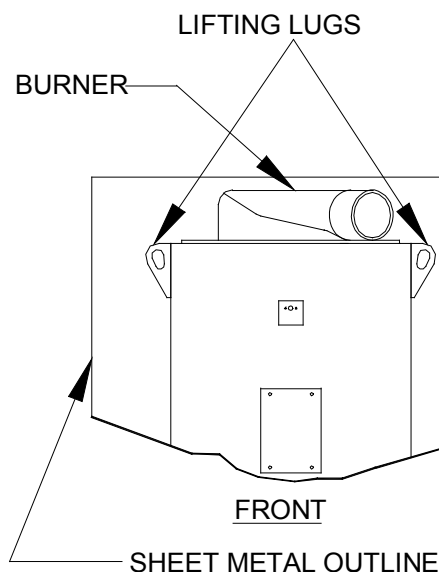

Figure 2.2
Lifting lugs are provided for moving the unit when it has been removed from the shipping skid (See Fig. 2.2). Remove the corrugated box and wrapping material from the unit. Remove the rear top panel from the unit to provide access to the lifting lugs. Remove the four- (4) lag screws securing the boiler to the shipping skid. Lift the unit off the shipping skid and position it on to the four-inch high mounting pad (required) in the desired location. If anchoring the unit, see the dimensional drawing in appendix F for their location. **USE ONLY THE LIFTING LUGS TO MOVE THE UNIT.**